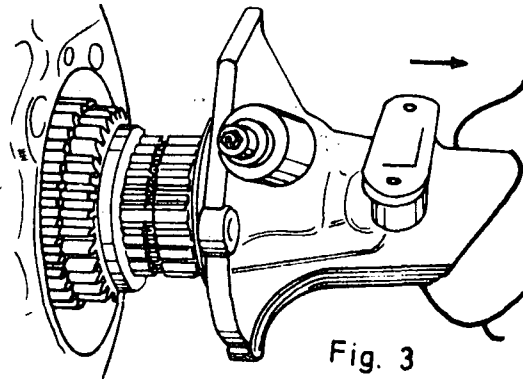

Fig. 3
- e) Remove the extension housing and the main shaft unit from the box (fig. 3).